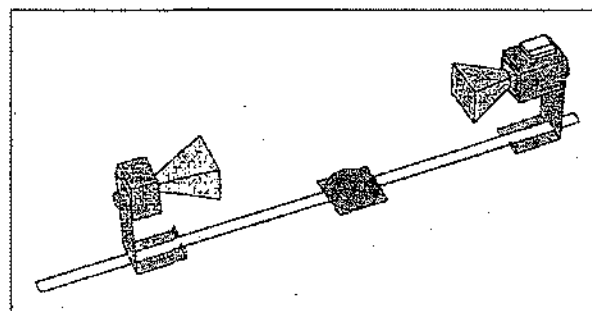

Figure 3.2 Equipment Setup
- ① Set up the equipment as shown in Figure 3.2. Adjust the Receiver controls to get a full-scale meter reading with the Transmitter and Receiver as close together as possible. Slowly move the Receiver along the Goniometer arm, away from the Transmitter. How does this motion effect the meter reading?